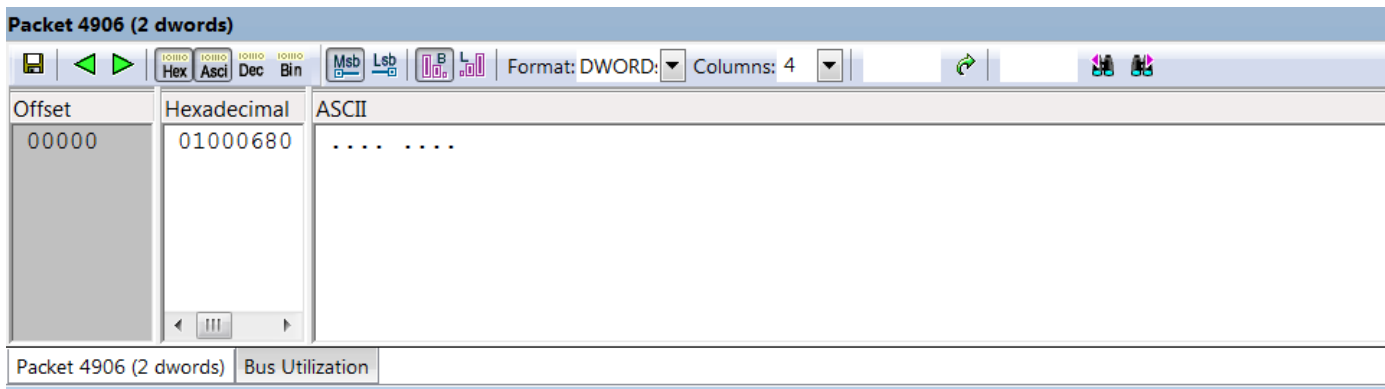

Figure 6.29: Data Block Dialog
2. Select **View Data Block** or the  **Data View** button to open the Data Block dialog box (see Figure 6.29 on page 304).